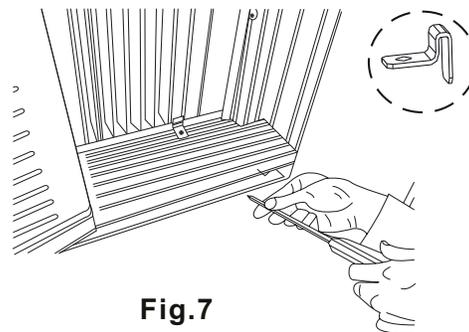

**Fig.6**
B. Extend the side panels out against the window frame (Fig. 6)